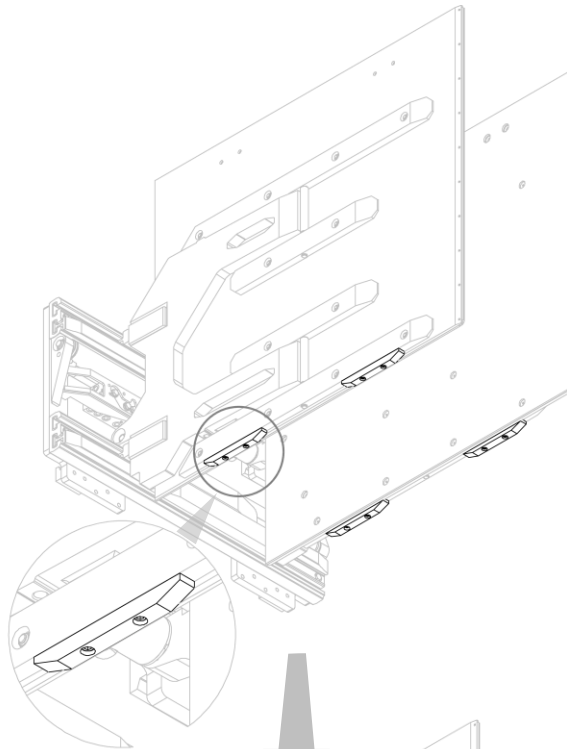
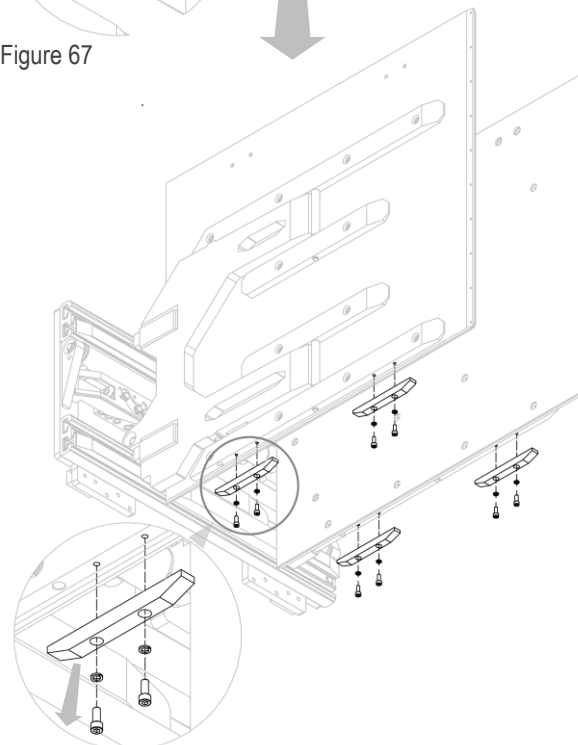

Figure 67
Figure 68
2. Remove the lower Ertalon anti-slip pads by unscrewing the screws securing them in place (see *Figure 67* and *Figure 68*).